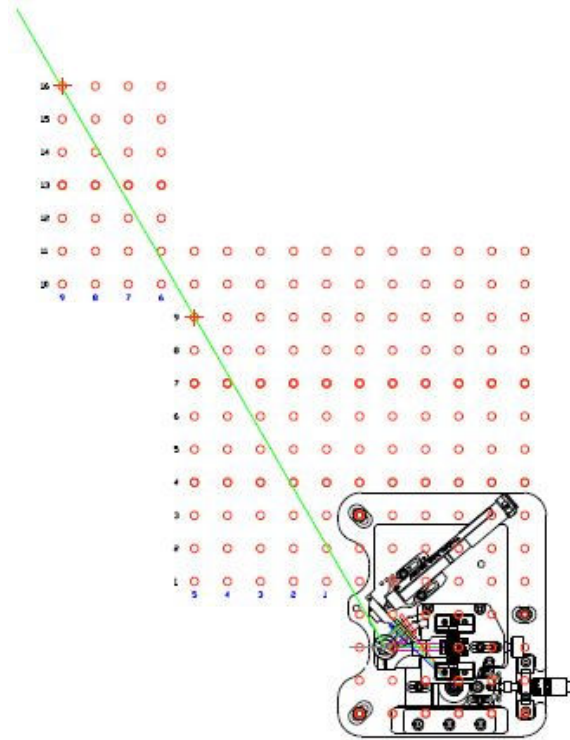
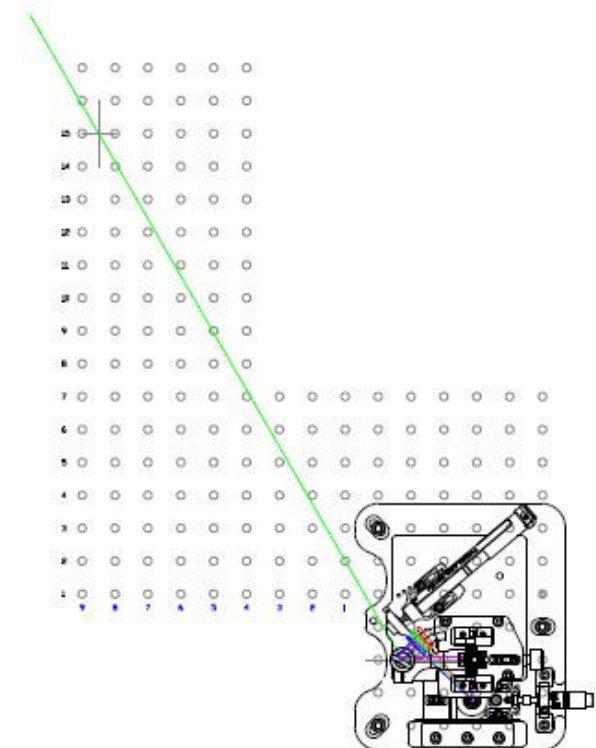

Figure 18 Imperial Breadboard Used to Align Littman Grating
Figure 19 Metric Breadboard Used to Align Littman Grating
Step 14: Setting the correct angle of the grating for light incident from the source is now important. The grating should be angled such that the plane of the actual grating passes directly through the pivot point of the mirror; see the Imaginary Alignment Line in Figure 18. This will set up the grating and mirror geometry so that 1st order diffracted light in the appropriate wavelength range is directed back in to the gain chip. Another method to set up this geometry, when the kit is mounted on an optical table, is to direct the zero order diffraction from the grating along a well defined path across the table using the hole pattern in the table top (see Figures 19 and 20).
A trick to align the grating properly is to mount the Tunable Laser Kit on to a breadboard and view the zero order diffraction from the grating. When the front plane of the grating is in line with the pivot point, the zero order diffraction will point to a hole on an imperial breadboard. Please see Figure 19 for the location of the intersecting point. A viewing card can be placed at this hole location to align the grating.